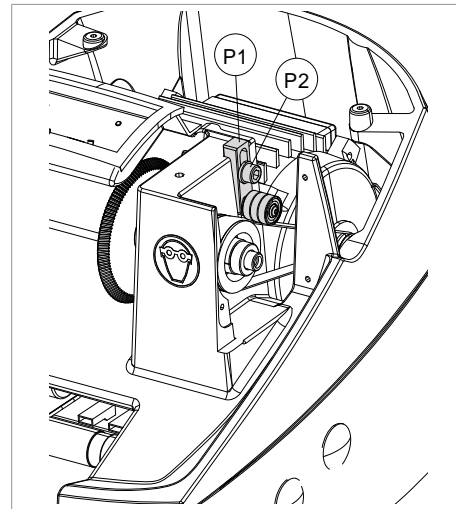

Fig. 52
- 5) Loosen the screw (P2) and remove the belt tightener (P1) (Fig. 52).
- 6) Loosen the screw (P2) and remove the belt tightener (P1) (Fig. 52).